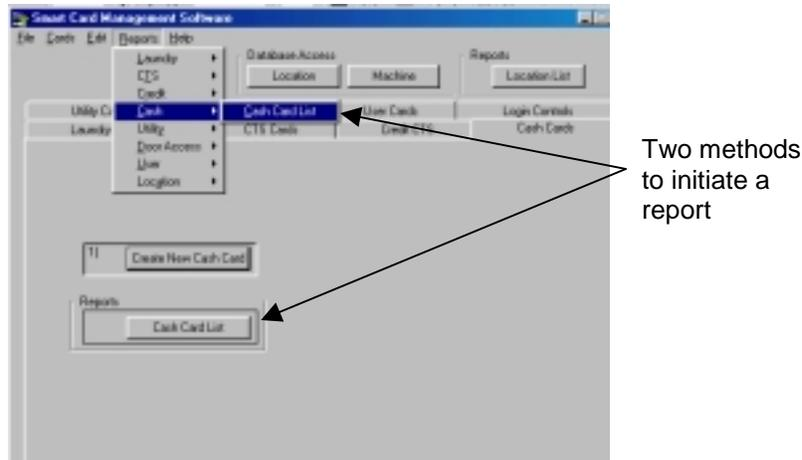

Figure 12.9 Opening the Cash Cards Report
1. To open a report, do one of the following (Figure 12.9):